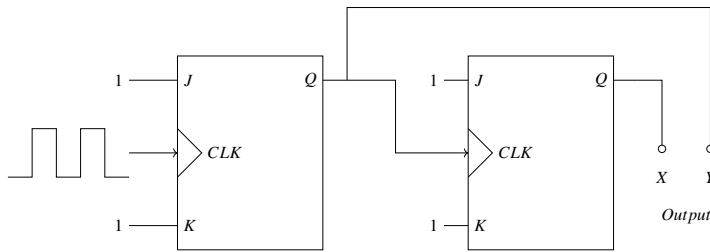

Fig. 5.19
19. The circuit shown in Fig. 5.19 below uses ideal positive edge-triggered synchronous  $J - K$  flip flops with outputs  $X$  and  $Y$ . If the initial state of the output is  $X = 0$  and  $Y = 0$  just before the arrival of the first clock pulse, the state of the output just before the arrival of the second clock pulse is \_\_\_\_ (GATE-IN2019,12)